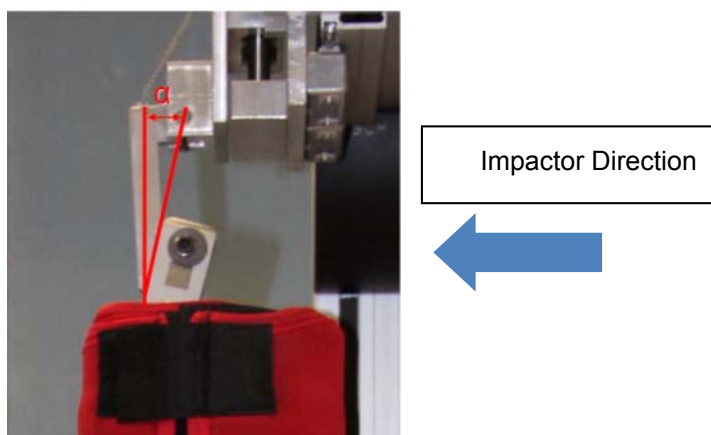

Figure 98 . Launch guide with 15° tilt toward guided impactor
Step 2: Make sure the launch guide at the top of the femur is locked tilting 15° towards the impactor. Lock the guide in position using the two M6 screws both sides. This allows the leg to hang vertically on the spring loaded release mechanism. See Figure 98 below.